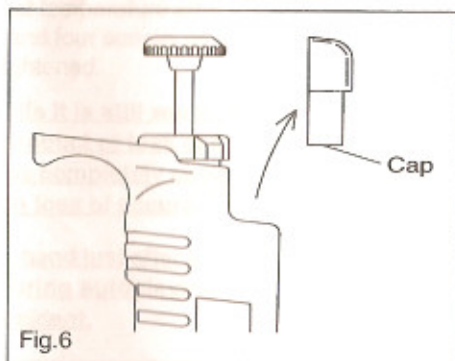

Fig.6
1. Remove the cap by pulling it out with your fingers. (Fig.6)